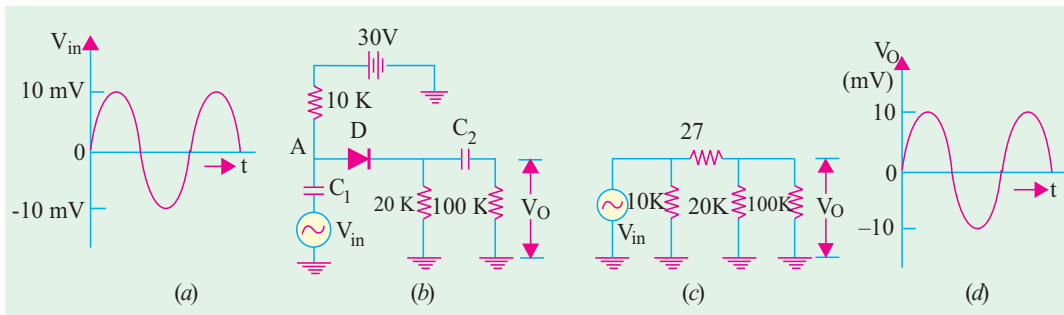

Fig. 52.30
**Example 52.18.** The Ge diode shown in Fig. 52.30 has a bulk resistance of 2  $\Omega$ . The two capacitors offer negligible reactance to the a.c. signal. Sketch the waveform of the output voltage.
**Solution.** As seen from Fig. 52.30 (b), no dc current can pass through 100 K resistor because it is blocked by  $C_2$ . Hence, no dc voltage appears across 100-K resistor. The battery current passes through 10 K resistor, through diode, through 20 K resistor and finally to ground.
AC equivalent circuit is shown in Fig. 52.30 (c) where capacitors and battery have been shorted. As seen, diode resistance of 27  $\Omega$  is in series with  $20 \text{ K} \parallel 100 \text{ K}$ . It means that only a very small part of ac. Source voltage drops across the diode. Hence, almost all a.c.source voltage appears across 100 K resistor. Obviously,  $V$  is practically the same as ac source voltage as shown in Fig. 52.30 (d).